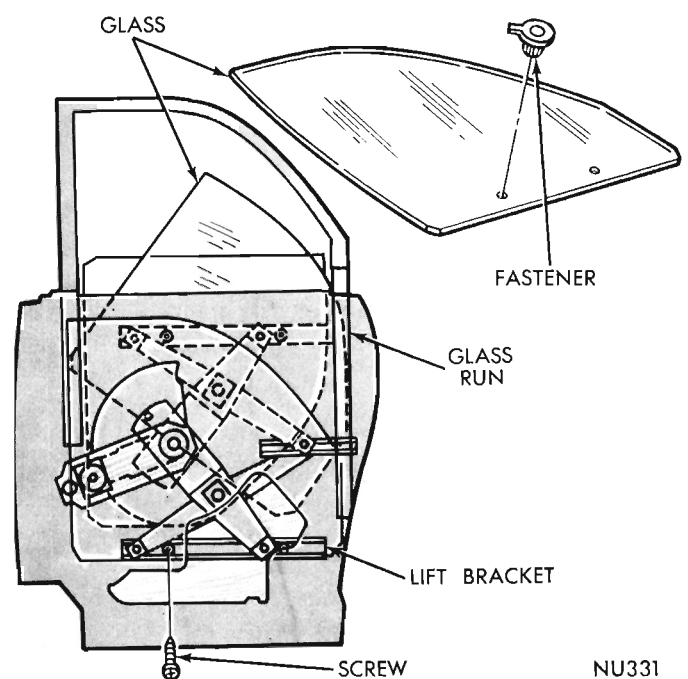

Fig. 45 - Quarter Window Replacement
- (1) Lower glass fully and remove lift channel to glass fasteners screws (Fig. 45).
- (2) Through large access hole, rotate glass clockwise to remove from front and rear run channels.
- (3) Raise glass assembly out of panel.
- (4) Remove fasteners from glass assembly (Fig. 45).